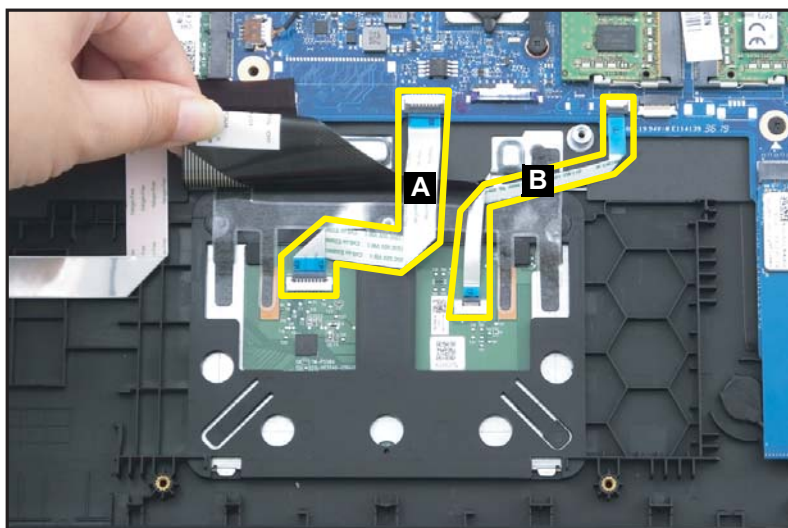

Figure 1-22. Touchpad Module Removal
1. Slightly lift the keyboard FPC, and then disconnect the touchpad FFC (A) from the touchpad module and mainboard connectors (Figure 1-22).
2. Disconnect the fingerprint FFC (B) from the touchpad module and mainboard connectors (Figure 1-22).